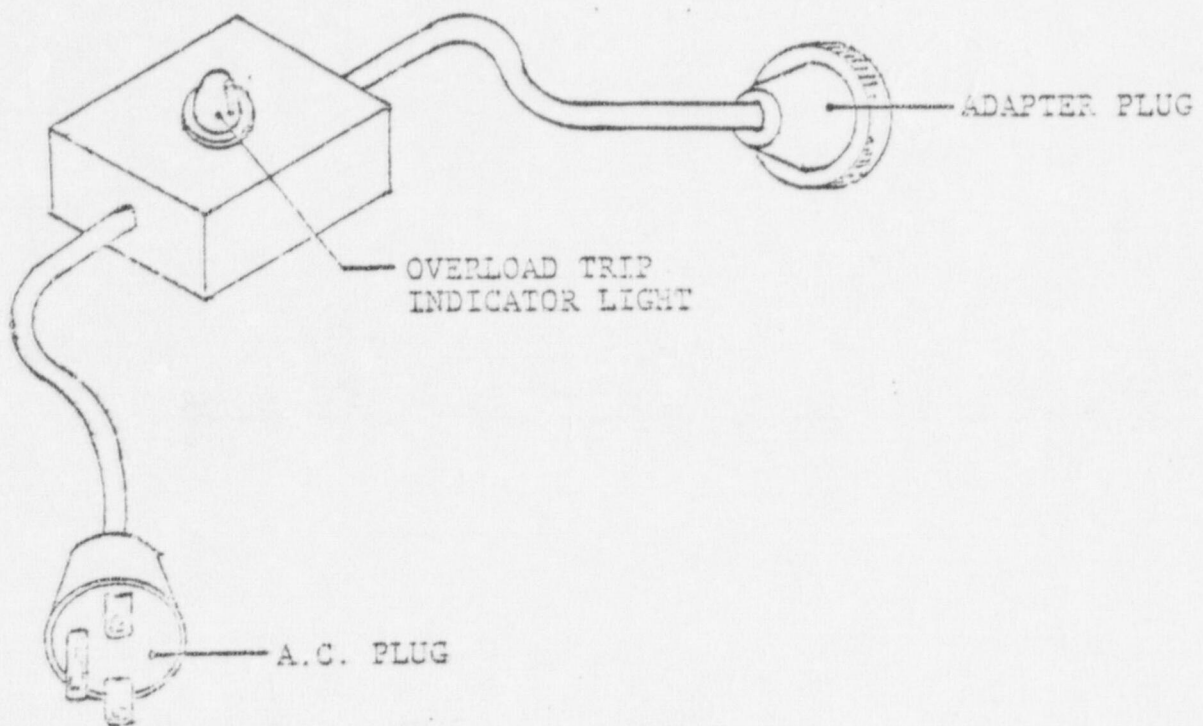

FIG. 13
2.1 Connect the BLH transducer indicator to the calibration adapter (See Fig. 13) and plug in the AC plug into a grounded 120V AC source.